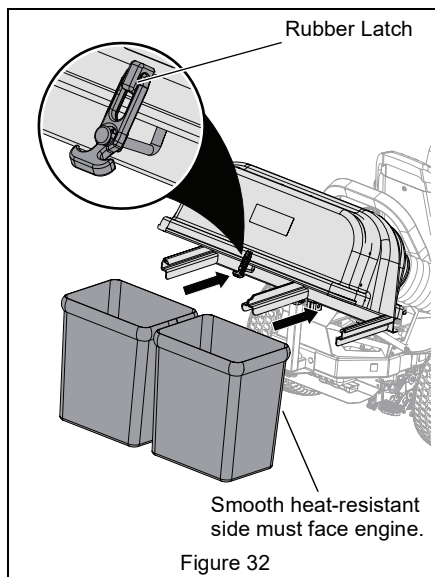

Figure 32
1. Install mesh bag assemblies to hood assembly frame. The smooth heat-resistance surfaces of the mesh bags must face the engine. Close the hood and connect rubber latch. See Figure 32.
2. Remove mesh bags from hood assembly. See Figure 32.